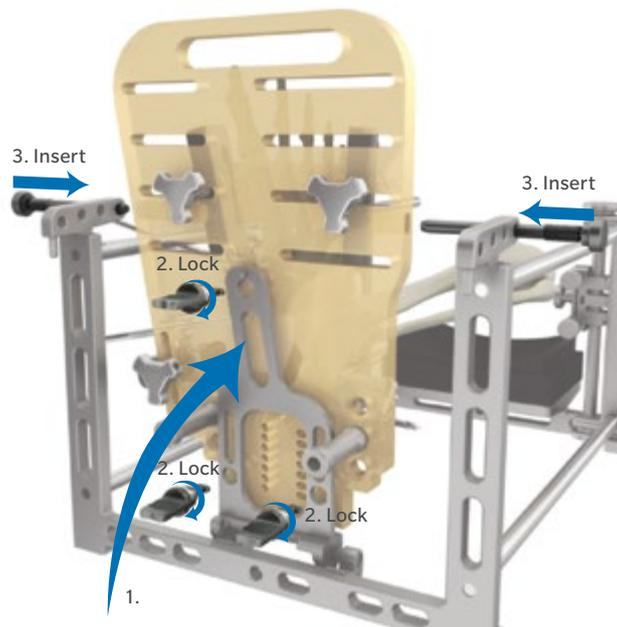

Fig. 82
- After completing the range of motion, reconnect the Foot Plate to the Alignment Stand Assembly (Fig. 82).